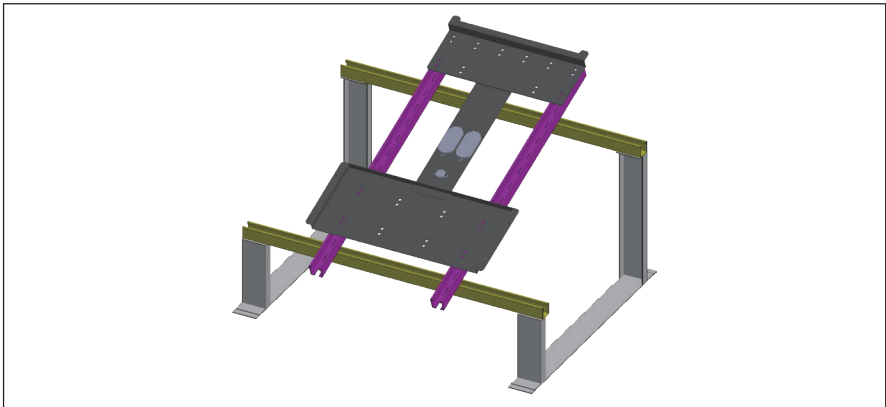

Figure 3-12: Wall mount fixed prior to inverter
1. Install the wall mount bracket to the rack system prior to installing the inverter. Do not allow bending of the bracket. See **Figure 3-12**.